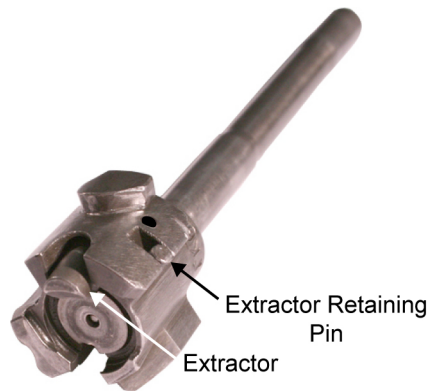

Figure 7. Extractor Retaining Pin Installed.
2. Install the extractor retaining pin with the bend towards the extractor. Ensure the pin is flush with or recessed below the surface of the bolt once fully installed. Check for proper spring tension by pushing the extractor toward the outer edge of the bolt face; there should be some resistance and the extractor should return to its original position. If unserviceable, replace the extractor spring. Refer to Figure 7